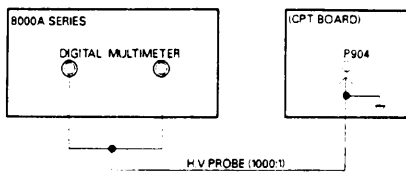

Fig 14.
- 1: Connect the instruments as shown in fig. 14.